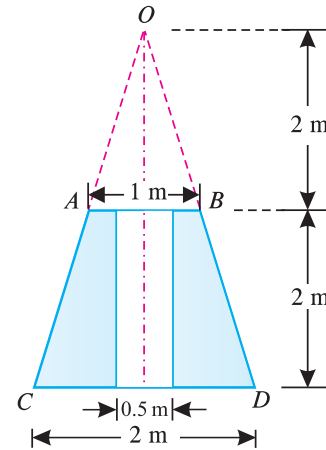

Fig. 6.29.
**Solution.** As the body is symmetrical about vertical axis, therefore its centre of gravity lie on this axis. For the sake of simplicity, let us assume a right circular cone  $OCD$ , from which a right circular cone  $OAB$  is cut off as shown in Fig. 6.29.